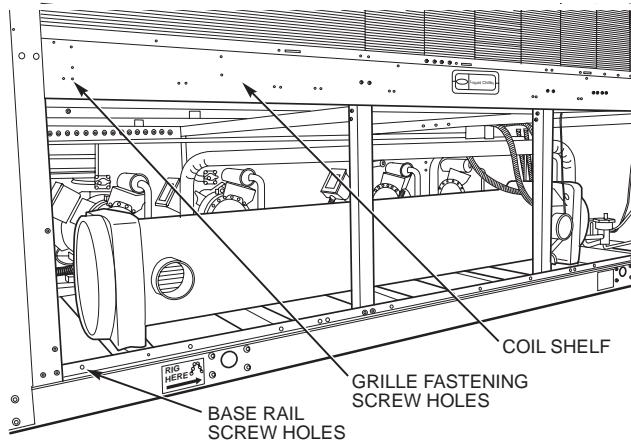

Fig. 1 — Location of Screw Holes
Step 3 — See Fig. 1 for location of lower side grille screw holes in condenser coil shelf and base rail. For end grilles, fasten grilles to C-channel. Openings are required to permit cooler fluid connections (and for some units, power connections) to chiller units only. Grille locations are shown in Fig. 2.